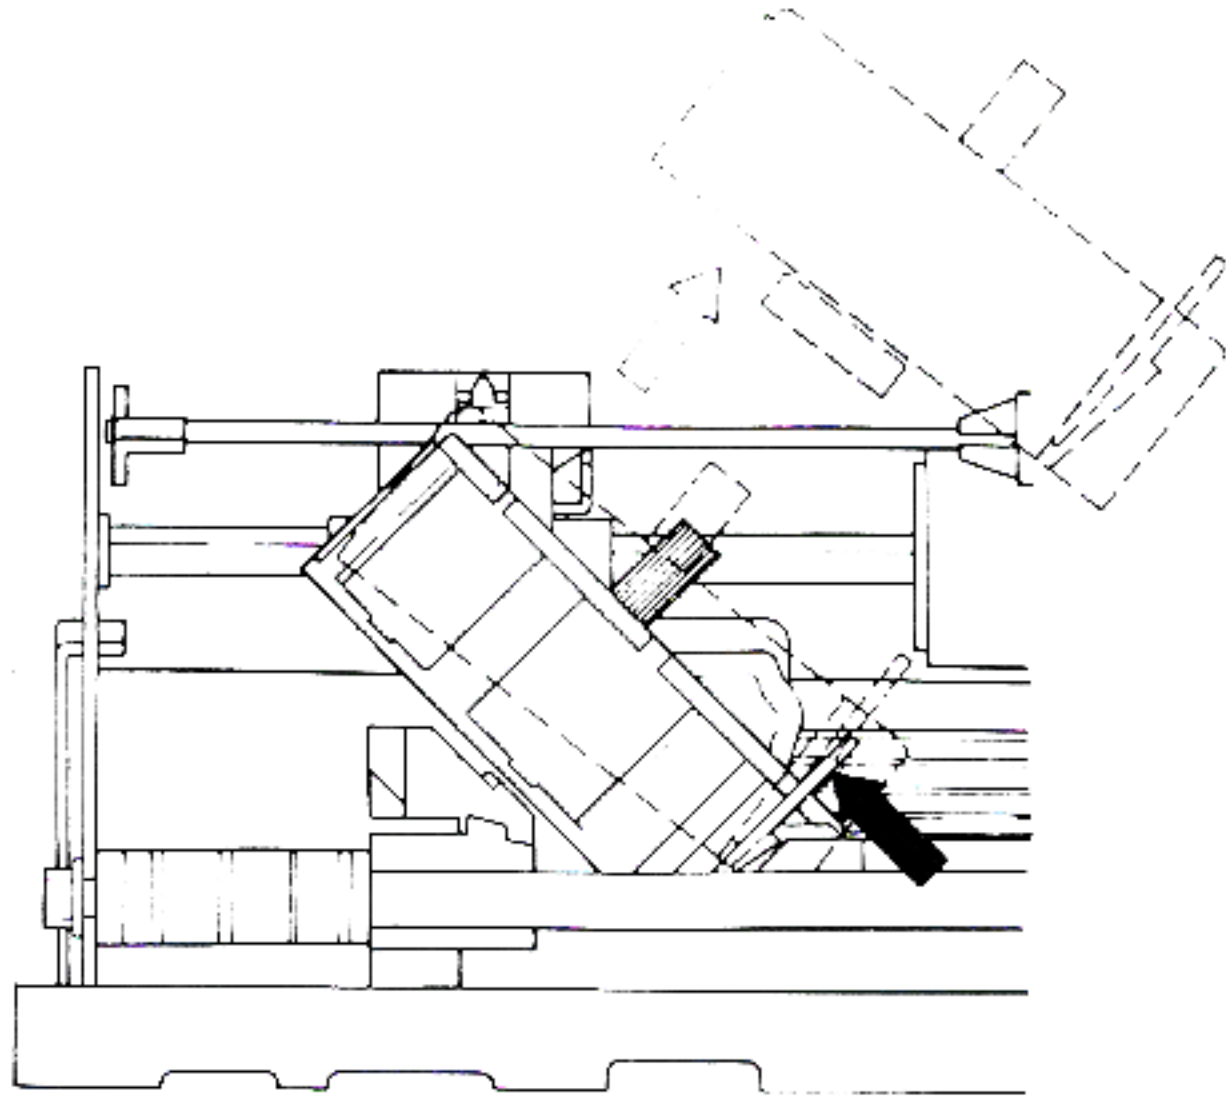

Figure 9
b) Figure 9 shows the removal of the ribbon cassette. Press the part indicated by the black arrow to tighten the ribbon, and raise the cassette in the direction of the white arrow.